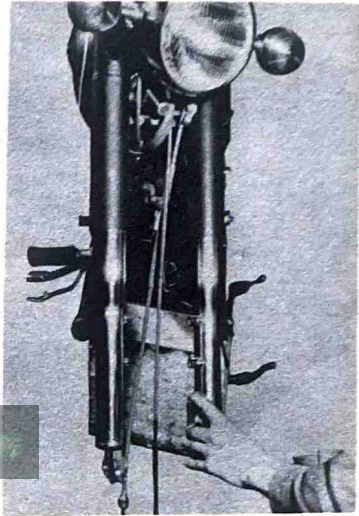

Fig. 5-6-4
- 4) Pull out the inner tube. (Fig. 5-6-4)